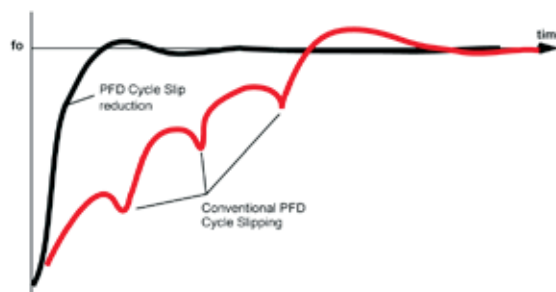

Figure 13. Cycle Slip Prevention (CSP)
When the VCO is not yet locked to the reference, the instantaneous frequencies of the two paths are different, and the phase difference of the two paths at the PFD varies rapidly over a range much greater than $\pm 2\pi$ radians. Since the gain of the PFD varies linearly with phase up to $\pm 2\pi$, the gain of a conventional PFD will cycle from high gain, when the phase difference approaches a multiple of 2π , to low gain, when the phase difference is slightly larger than a multiple of 0 radians. The charge on the loop filter small cap may actually discharge slightly during the low gain portion of the cycle. This can make the VCO frequency actually reverse temporarily during locking. This phenomena is known as cycle slipping. Cycle slipping causes the pull-in rate during the locking phase to vary cyclically as shown in the red curve in Figure 13, and increases the time to lock to a value far greater than that predicted by normal small signal Laplace analysis.
The HMC700LP4(E) PFD features an ability to virtually eliminate cycle slipping during acquisition. When enabled, the Cycle Slip Prevention (CSP) feature essentially holds the PFD gain at maximum until such time as the frequency difference is near zero. Cycle Slip Prevention, allows faster lock times as shown in Figure 13. The use of the cycle slip feature is enabled with `csp_enable` (see Table 14).